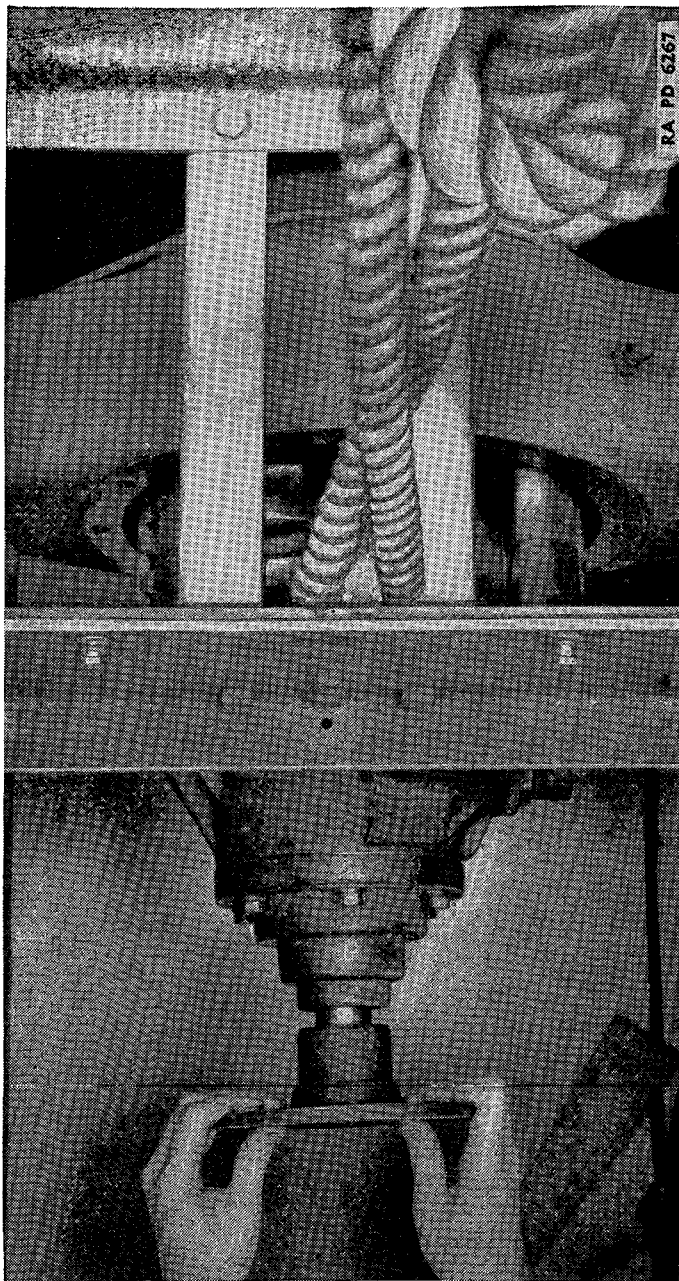

FIGURE 49.—Rear axle differential assembly removal.
(4) Break differential housing— $\frac{5}{8}$ -inch socket wrench, center punch, hammer. Remove twelve  $\frac{7}{16}$ -inch bolts (BANX1DD) around differential housing. Mark halves so they can be replaced correctly.
(5) Pull out assembly—lifting fixture, sling. Pull the assembly part way out, attach lifting fixture to one cap screw hole, and hook onto sling. Remove unit and lower to floor (figs. 49 and 50).